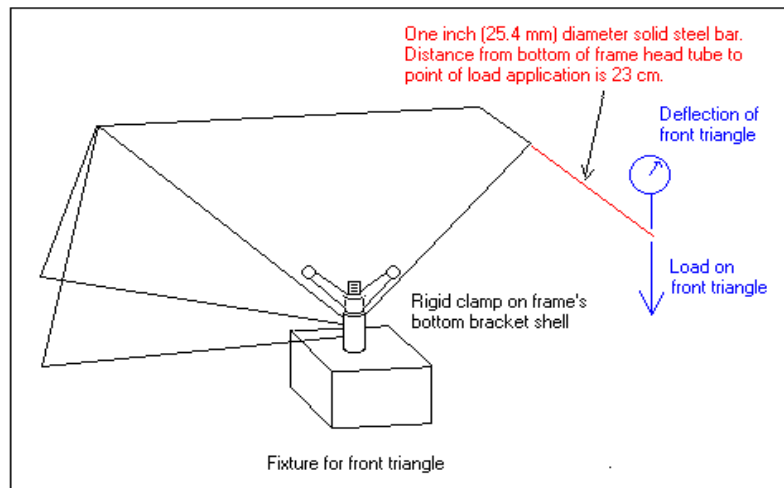
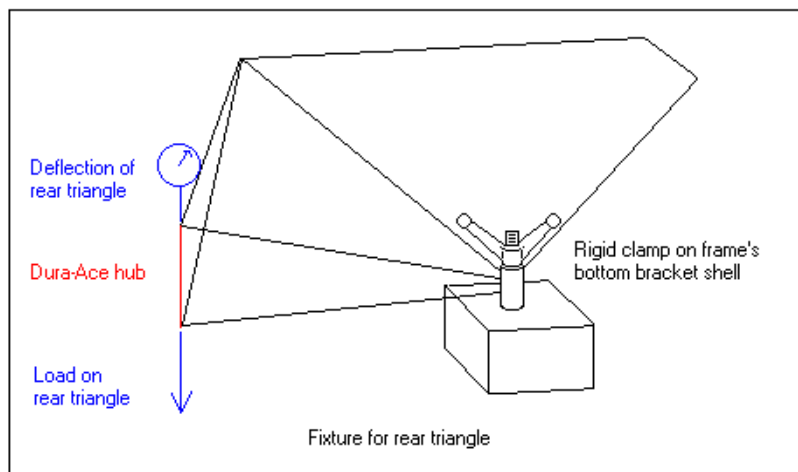

Figure 2: Front Deflection Test (2)
Figure 3: Rear Deflection Test (2)
The frame should be orientated in a horizontal position and rigidly clamped at the bottom bracket. The front and rear frame triangles are tested separately both with 21.6 Kg's hung directly below the locations shown in Figure 2 and Figure 3. Test apparatus and setup is outlined in section 1.2. (2)